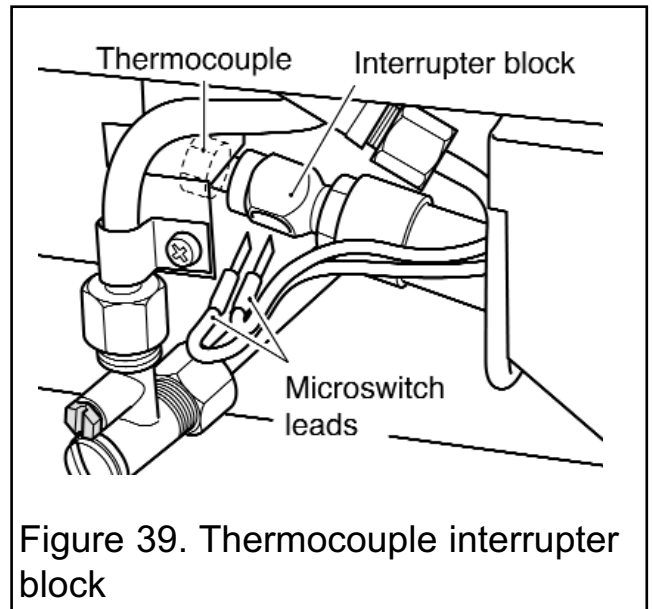

Figure 39. Thermocouple interrupter block
2. Loosen the thermocouple nut to free the microswitch leads and pull the leads clear of the thermocouple interrupter block (See figure 39).
## 16.13 To remove the thermocouple interrupter block (See figure 39).